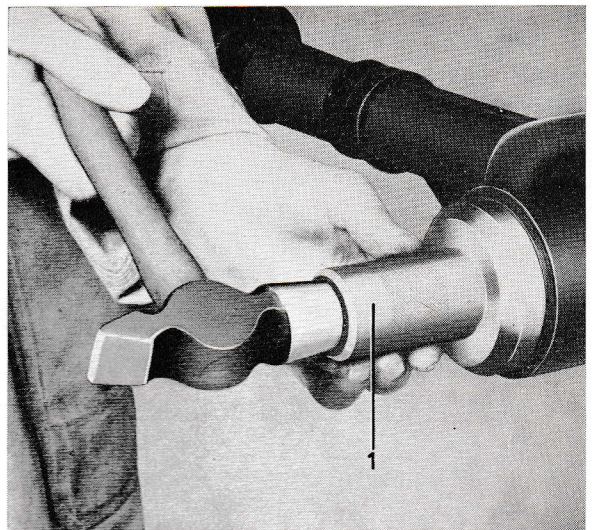
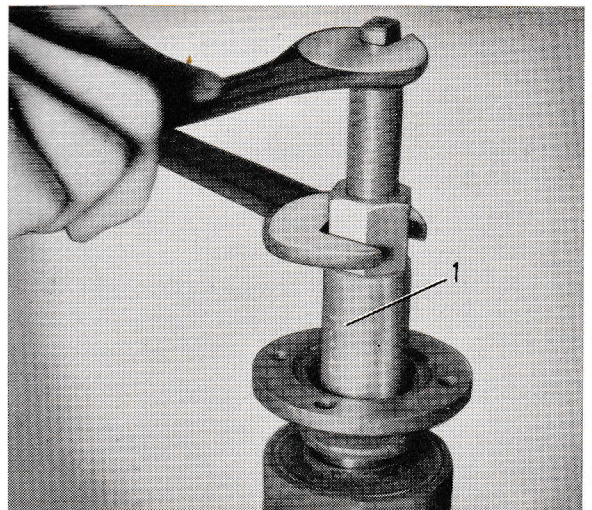

Fig. 7. Fitting of seal ring.
Fig. 8. Fitting the flange.
3. Insert a new paper gasket and fit the new seal ring with an SVO tool as shown in Fig. 7. (See the tool list on page 20—23 for the SVO tools used on the various rear axles).
4. Press on the flange by using an SVO tool as shown in Fig. 8.
5. Fit the differential with crown wheel bearing races, cap (37) and adjusting nuts (34). Do not tighten the cap bolts (44) more than that it is possible to turn the adjusting nuts.
8. Fit the metal washer (19) and the seal ring (20) with gasket. For the sealing ring, use tool SVO 2410, see Fig. 7. Then press on the flange with the help of the press tool as shown in Fig. 8. Fit the washer (24) and the nut (22) which should be tightened to the torque shown in the specifications.